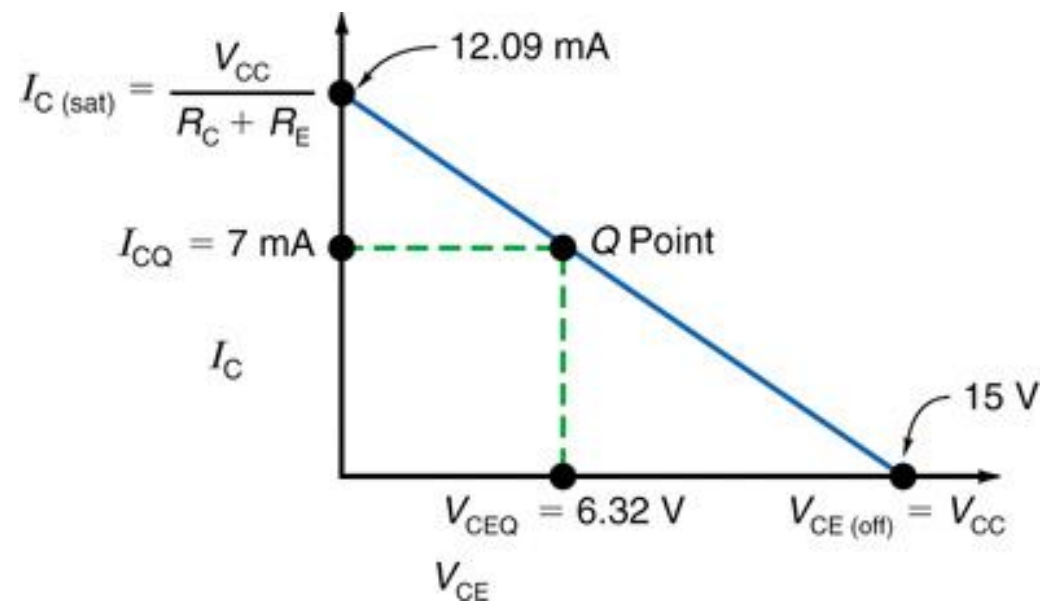

Fig. 28-19
- Fig. 28-19 shows the **dc load line** for voltage-divider biased transistor circuit in Fig. 28-18.